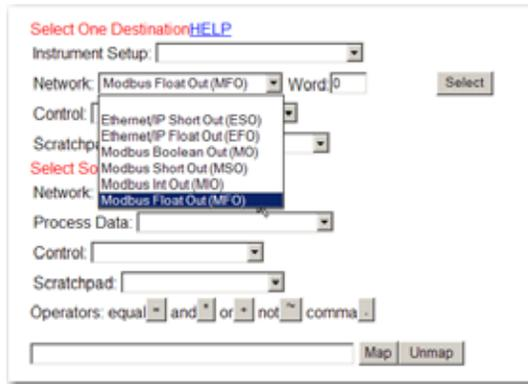

FIG. 236 DESTINATION NETWORK/MODBUS FLOAT OUT/WORD 0
- Step 3. To verify that you have two (2) way communication do the following:
- From the Mapping web page of the HI 4050 instrument you want to communicate with, click on the Destination Network pull down menu. (See Fig. 236)
- Click on “Modbus Float Out” (MFO). (See Fig. 236)